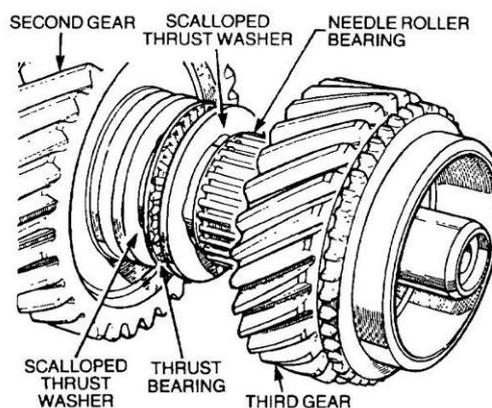

Figure 179 Installation of Third Gear
- g. Install a scalloped thrust washer, a thrust bearing and another scalloped washer on the mainshaft. Fit a new needle roller bearing and the third gear (Figure 179).